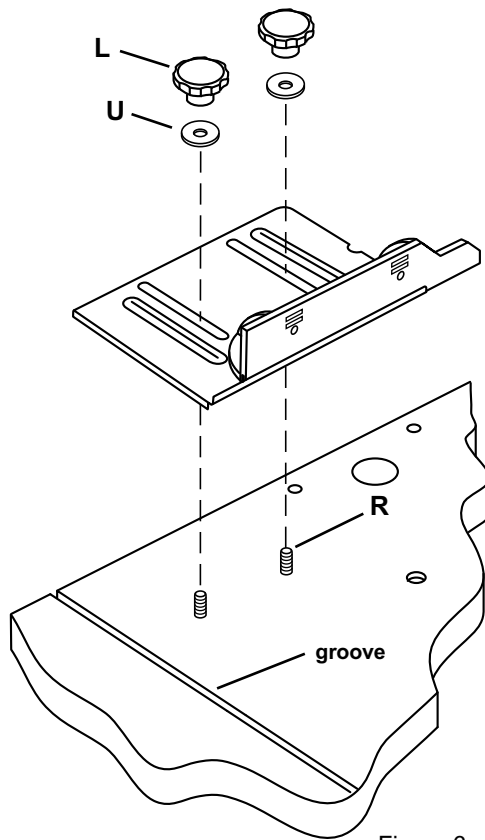

Figure 6
2. Attach fence assemblies to table with washers (**U**) and knobs (**L**). Make sure that the turned down flange fits snugly against inside wall of provided groove in tabletop. See Figure 6.